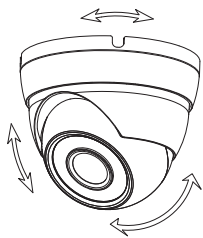

Figure 3-3
- Step 1** Find the mounting template sticker from the accessory pack and stick it to the mounting surface ①.
- Step 2** Drill screw holes (and the cable outlet hole if it needs to go through the mounting surface) on the mounting surface as indicated on the mounting template, then insert expansion bolts ② from the accessory pack in the screw holes.
- For model A, hold the pedestal ③ tightly and keep the device ⑤ upward, rotate the fixing ring ⑦ counterclockwise until you can detach it from above, and then take off the pedestal ③.
- For model B and model C, loosen the locking screw ⑨ with the supplied wrench ⑧ and take the pedestal ③ off.
- Step 4** Adjust the location of the pedestal ③ according to cable outlet requirement (top out or side out), then pull the cable out through mounting surface or the side wire tray. Align the screw holes on the pedestal ③ to those on the mounting surface, then put in and fasten the supplied self-tapping screws ④ to attach the device ⑤ to the mounting surface.
- For model A, put the fixing ring ⑦ back to hold the enclosure ⑥, leave some spaces enough for you to adjust the device ⑤. Aim the lens to the ideal angle(see Figure 3-3) and fasten the fixing ring ⑦.